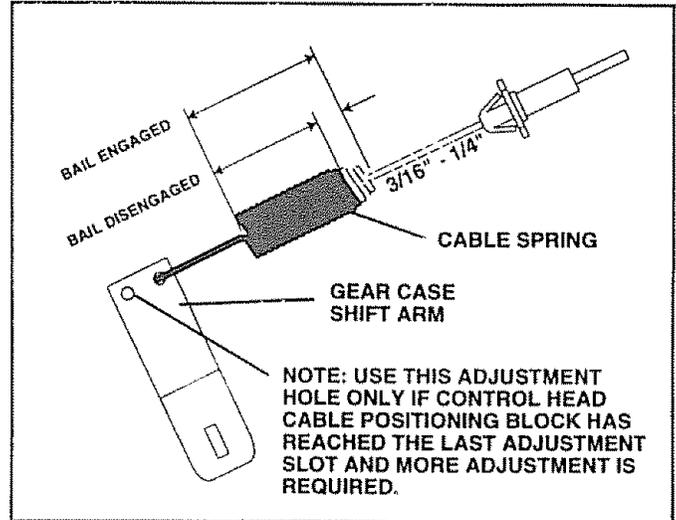

FIG. 20C
- From underside of mower, remove spring from gear case shift arm and reinstall in adjustment hole furthest away from cable (See Fig. 20C).